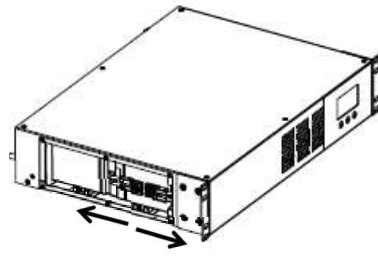

Figure 7
3. Disconnect the internal battery module by separating the Anderson connectors. (**FIG. 7**).